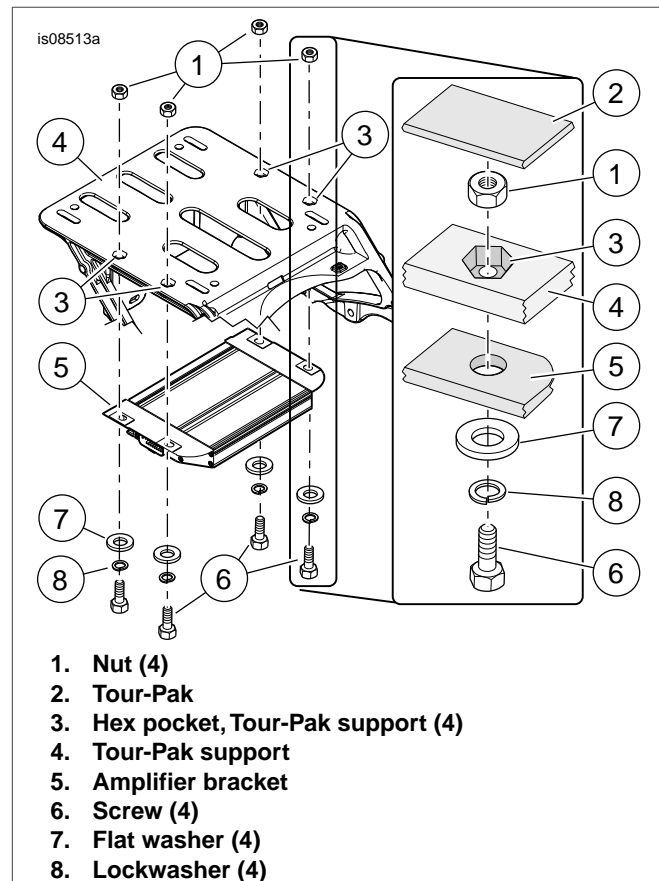

Figure 2. Amplifier Installation
6. See Figure 2. Place hex nuts (1) into hex pockets (3) on the Tour-Pak support (5).
9. Install the amplifier. Secure with flat washers (7), lockwashers (8) and screws (6). Tighten screws to 60-72 **in-lbs** (6.8-8.1 N-m).